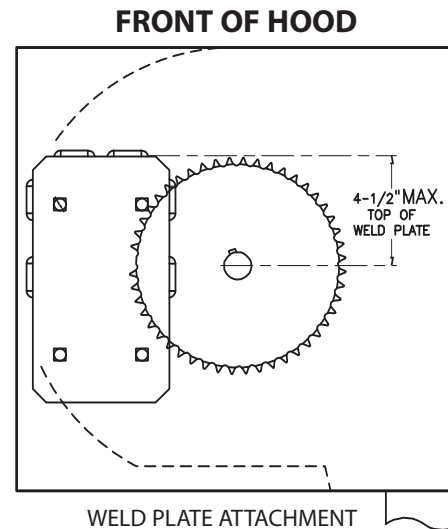
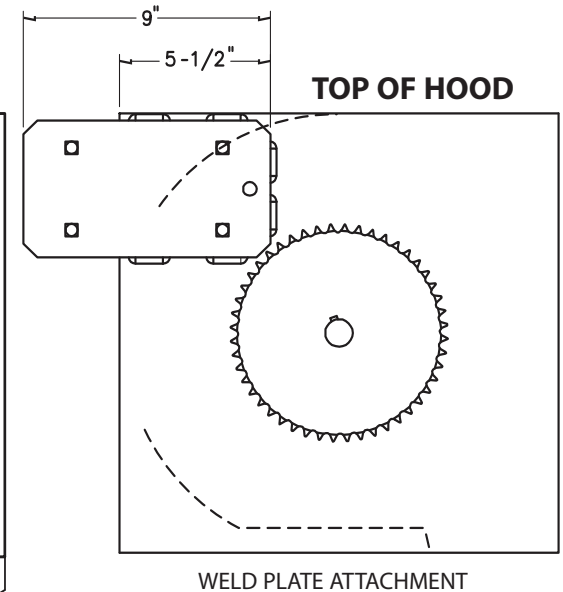

Figure 1
Figure 2
The RMX™ Rolling Steel Operator can be assembled for **right-hand** mounting Top of Hood or Front of Hood **Fig. 1 & Fig. 2**. It is possible to mount the RMS® Operator on either side using the optional Wall Mount method (See page 4.3). **Figure 3**.
- 2) Weld the Rolling Door weld plate assembly (provided) to the door headplate. A minimum of two 1" weld beads are required on each side of the weld plate for proper attachment. See **Fig 1 or 2** for proper placement.